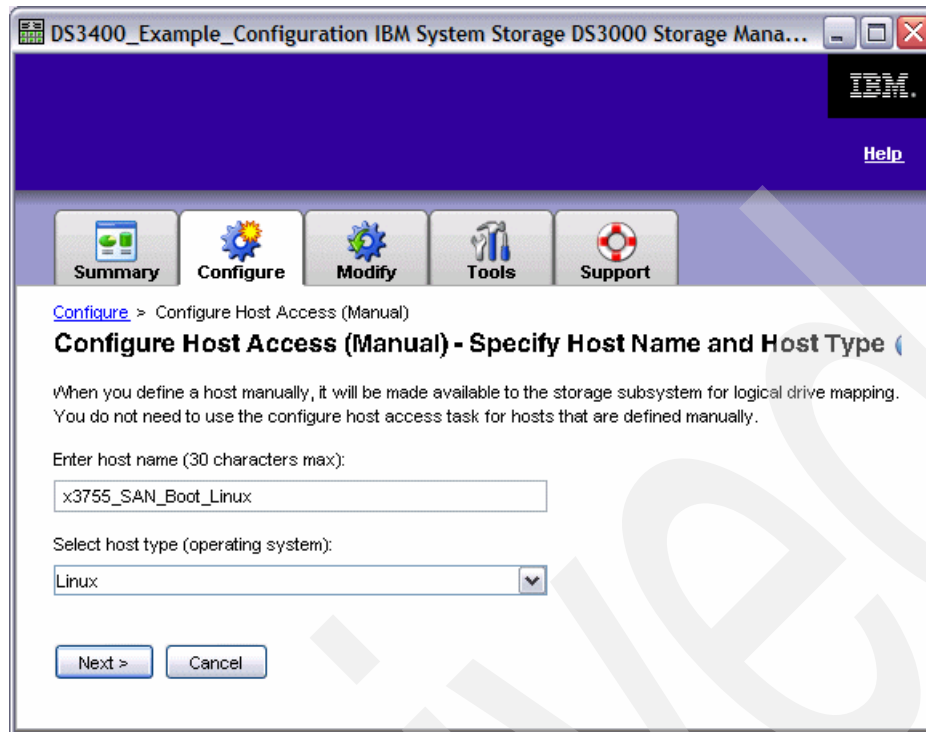

Figure 26-8 Specify Host Name and Host Type
2. Specify the host name and type. In our sample case, the host server name will be x3755\_SAN\_Boot\_Linux and the type will be Linux (see Figure 26-8 on page 647).